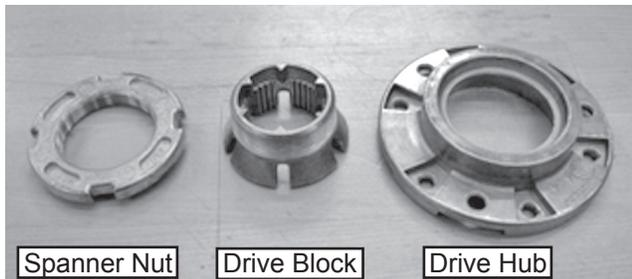

Figure 1
**NOTE:** Always install a new drive block, driven hub and spanner nut if the basket, drive assembly or drive block are removed for service. See figure 1.